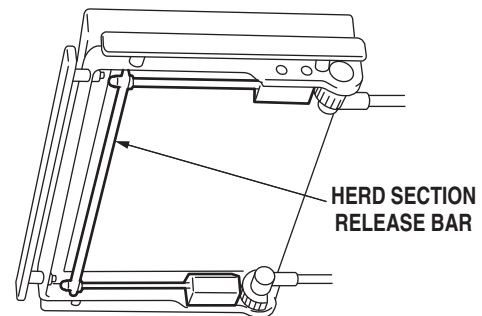

Figure 2-20. Head Section Adjustment
a. A quick release positioning bar located under and to the front of the head section (figure 2-20) is used to raise or lower the head section. Pull the release bar toward the head end to allow the section to pivot up or down. Positioning from 60° above horizontal to 90° below horizontal in 15° increments is available. Release the bar to lock the head section in position.